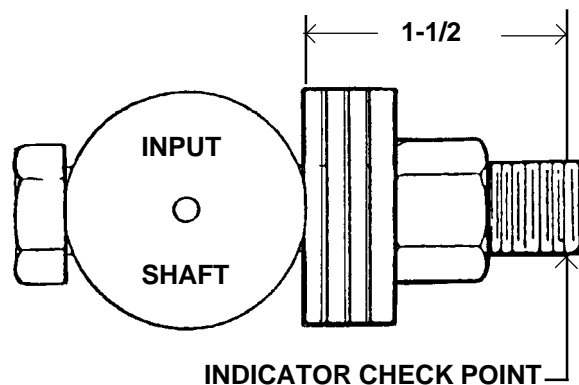

FIGURE 12
3. Gear backlash check procedure (**Figure 12**). Install 1/2 x 3 capscrew through shear pin hole. Install flat washers to take up 1/2" space and then install nut and tighten so bolt cannot move. Clamp gearbox to something solid so it will not move when shaft is rotated by hand. Measure 1-1/2 inches from side of shaft to point on bolt and mark (See **Figure 12**). Set dial indicator at marked point, then while holding bottom shaft so it will not rotate, rotate the input shaft back and forth noting extreme indicator reading. If total indicator deflection reading does not fall between .006 to .018, then shims (Ref. #12 **Figure 8**) will have to be added to increase backlash or deleted to decrease backlash.